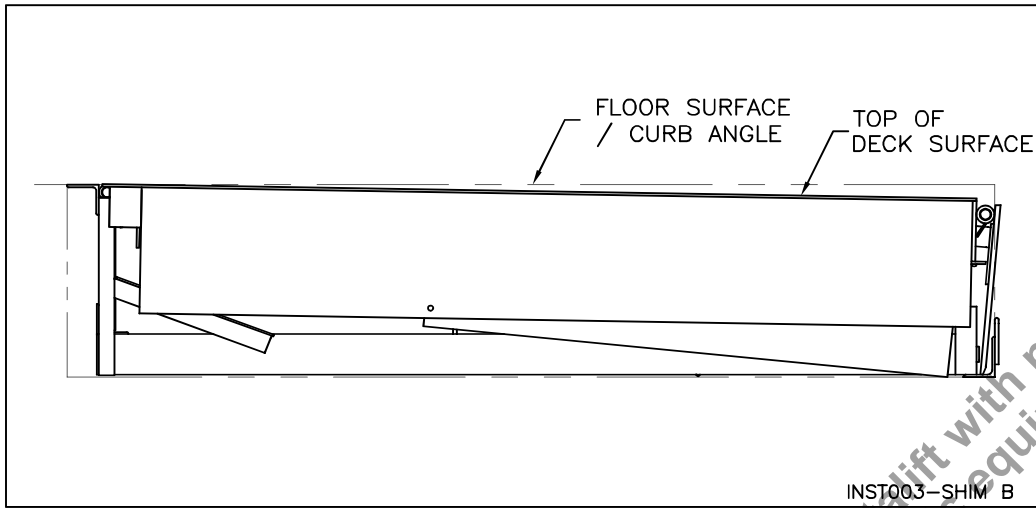
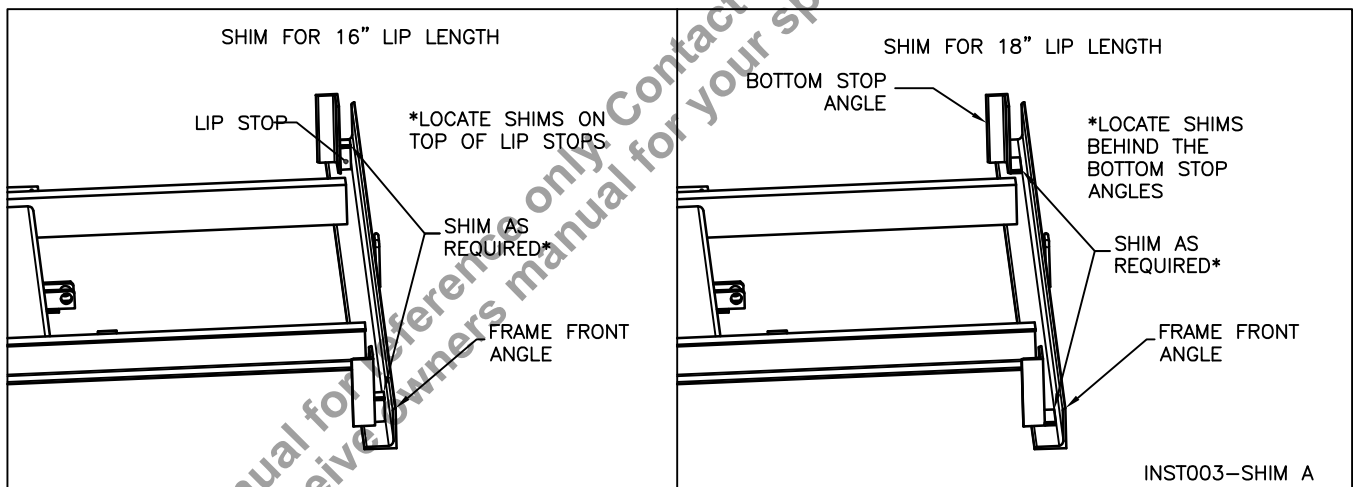
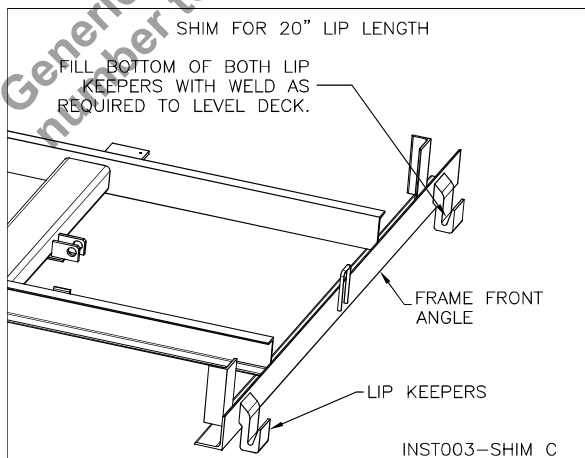

Figure 35: Deck Alignment
Figure 36: Shimming 16" & 18" Lips
Figure 36A: Shimming 20" Lips
12. ___ For any model of mechanical dock leveler, review the position of the top edge dock leveler deck relative to the top of the curb angle (See “Figure 35: Deck Alignment” on page 26). If the deck is too low in relation to the installation requirements, shim the dock leveler using steel shim(s) on both sides as indicated in “Figure 36: Shimming 16” & 18” Lips” on page 26 and in “Figure 36A: Shimming 20” Lips” on page 26.